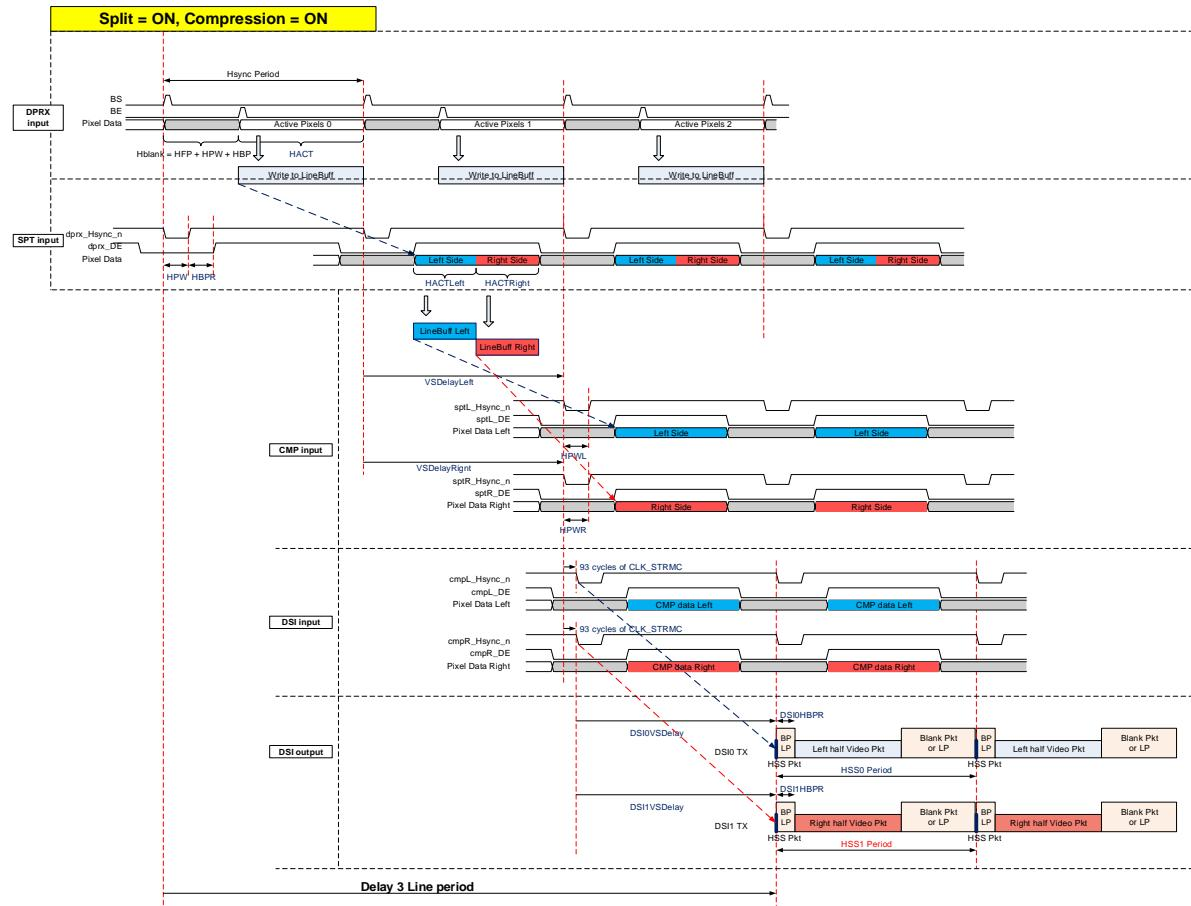

Figure 4-17 Pixel data flow for Dual DSI Link with Compression
2. The skew between DSI0 and DSI1 can be programmed by register (DSI0VSDelay/DSI1VSDelay and DSIOHBPR/DSI1HBPR shown in Figure 4-17)